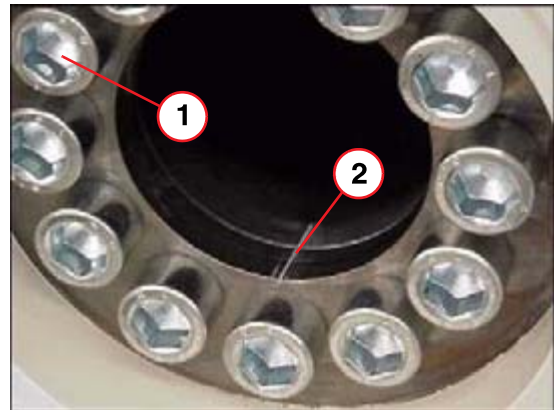

Fig. 15: Unit carrier installation
- Align the unit carrier to the flange of the lifting base by means of the marks made in the factory (they must form a line) (2/ Fig. 15 / p. 18) and carefully push the unit carrier onto the flange of the lifting base.
- Secure the unit carrier with 12 screws M16 x 40 and Loctite 221 and tighten them crosswise with a torque of **200 Nm** (1/ Fig. 15 / p. 18).